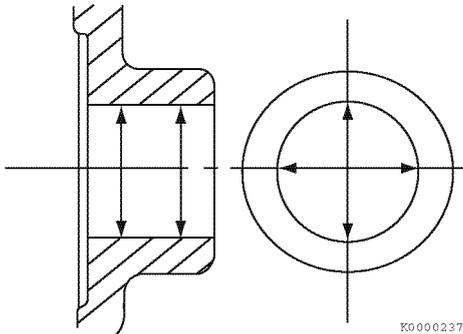

Figure 6-72
6. Measure the diameter of the wrist pin bore on both sides of the piston (**Figure 6-72**). See *Piston* on page 6-10 for specifications. Record the measurements.